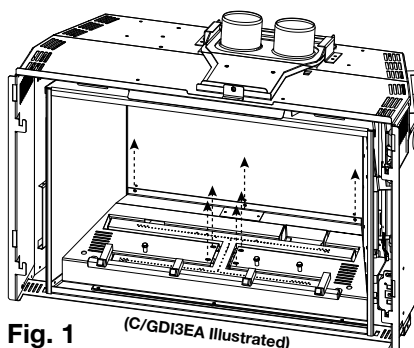

Fig. 1 (C/GDI3EA Illustrated)
- ☐ 2. Remove the 7 screws that secure the log cover in place. Lift the cover out (**Fig. 1**).